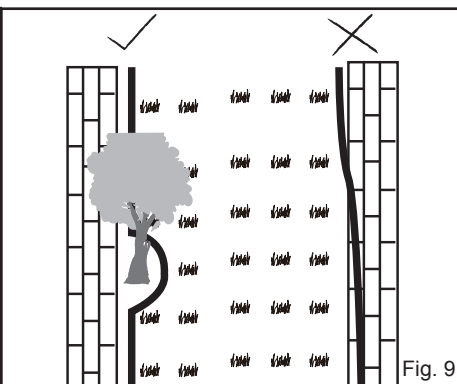

Fig. 9
- Do not run the magnetic strip outside of the lawn area. The mower may follow the magnetic strip and become stuck (Fig. 9).